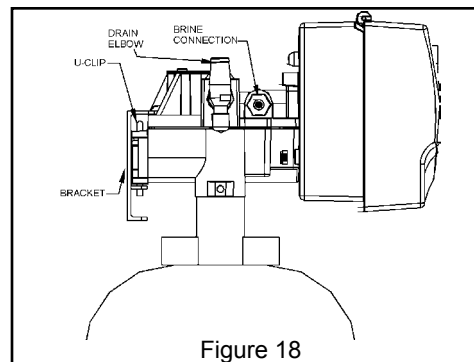
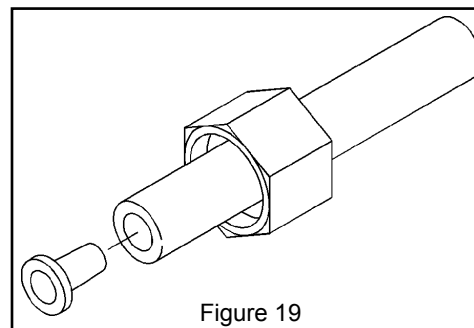

Figure 18
Figure 19
Refer to Figures 18 & 19.
- Slip the white nut over one end of the tubing and press the plastic insert into the end of the tubing (Figure 19). Connect to the brine valve and tighten nut.
- Slip the white nut over one end of the tubing and press the plastic insert into the end of the tubing (Figure 19). Connect to the brine connection on the valve and tighten nut (Figure 18).